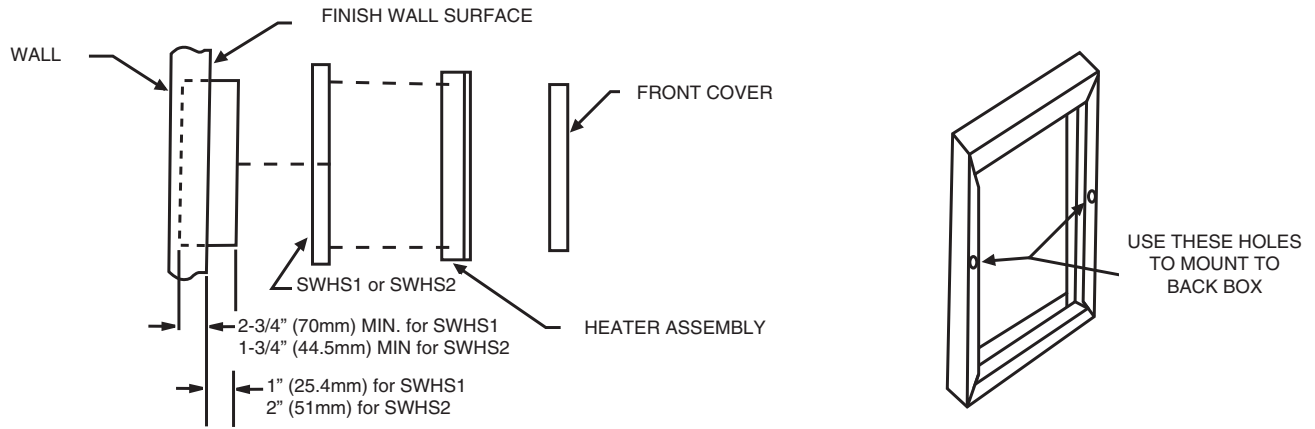

FIGURE 2
1. When using the SWHS1 the front edge of the back box must extend 1” (25.4 mm) beyond the finished wall surface. When using the SWHS2 the front edge of the back box must extend 2” (51 mm) beyond the finished wall surface (See Figure 2).
1. Position the semi-recessed sleeve on the back box and attach with two (2) #6 X 3/8” (3.5 mm X 9.5 mm) screws (provided) through holes as indicated in Figure 2.